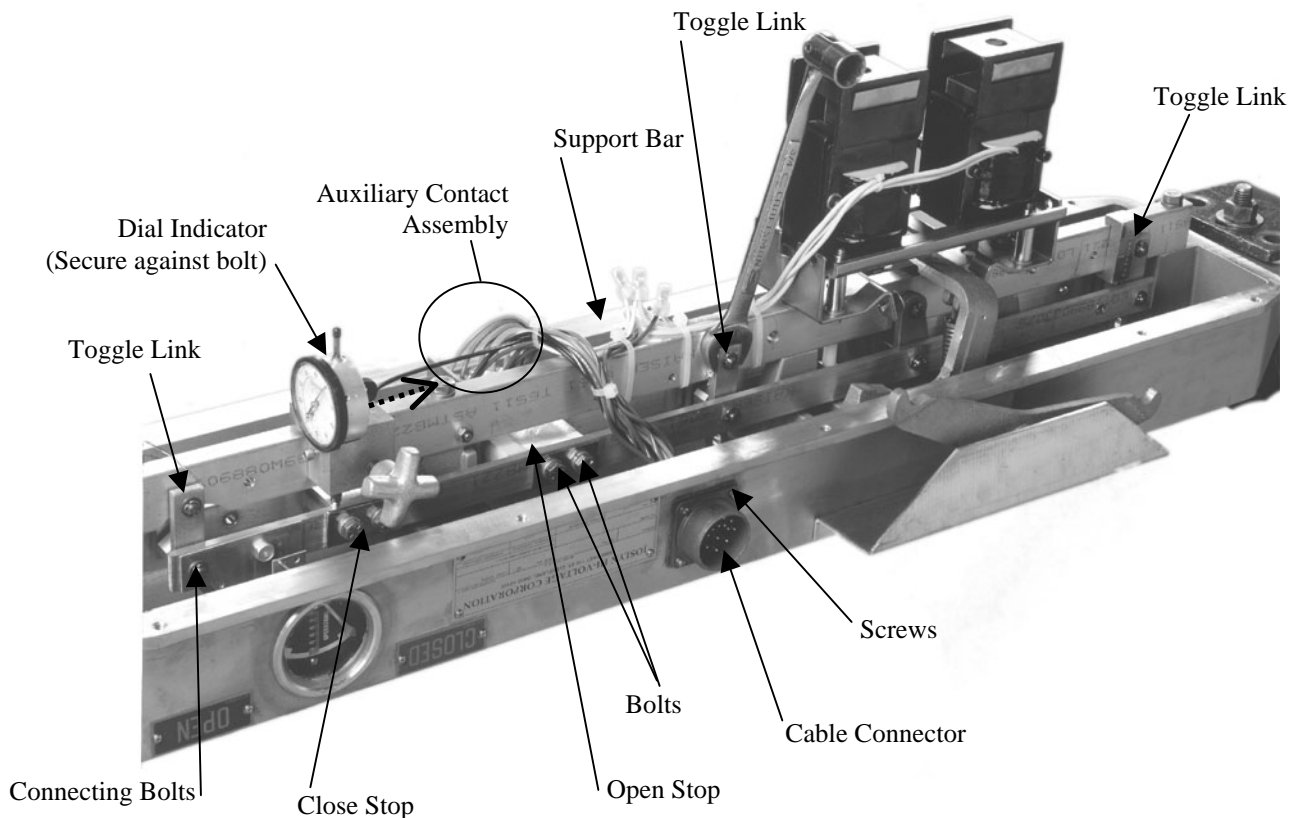

Figure 8: Synchronization of Replacement Module Assembly
2. Attach a dial indicator to the mechanism to measure vertical movement of the switch actuating bar. Joslyn recommends the dial gauge indicator be positioned against the bolt head as indicated by the arrows in Figure 8. It is shown out of position to enable photographing of other components.
4. Full Travel. Put switch in open position. Dial indicator should read  $0.205'' \pm 0.005''$ . If out of tolerance, adjust open stop. Refer to Figure 8. Retorque bolts to 120 inch-pounds.